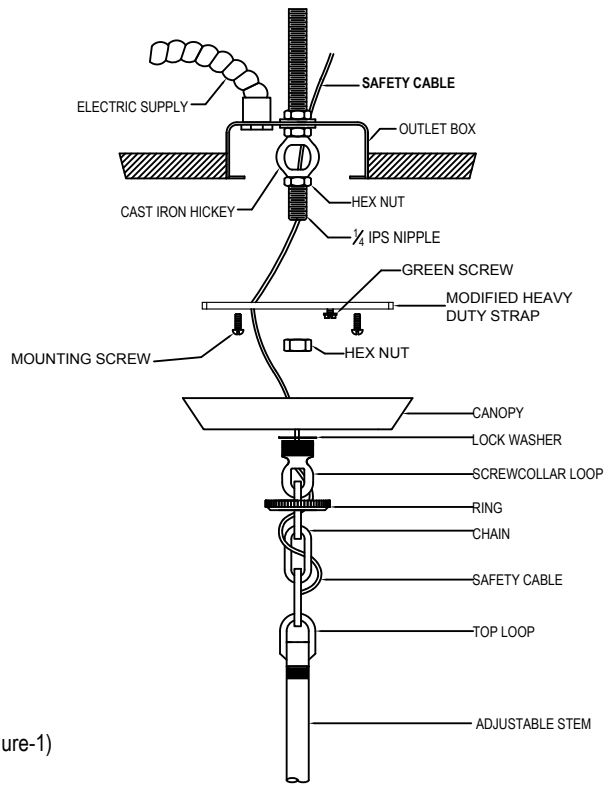

FIGURE-1
1. Attach the SAFETY CABLE to the building structure or brace (See figure-1)